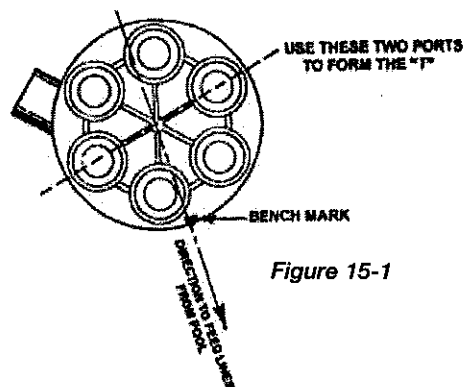

Figure 15-1
5. Select the two ports on the bottom of the actuator valve that are opposite of each other and also comes the closest to forming a 'T' with the imaginary line to the feed lines coming from the bottom of the pool. (See Figure 15-1).